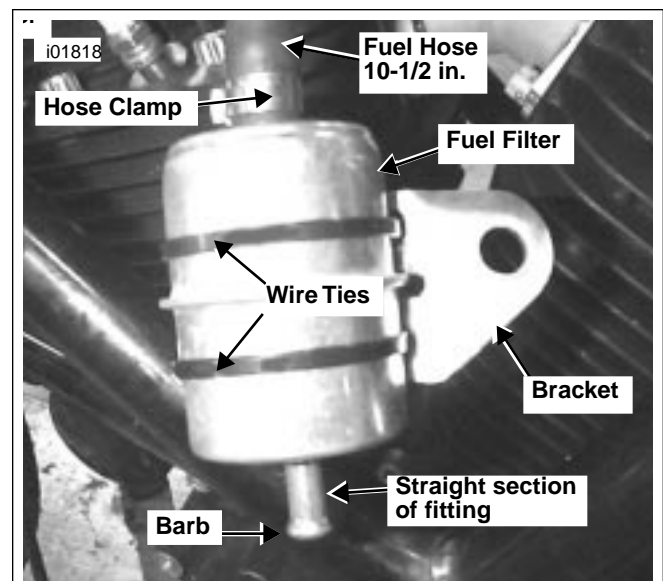

Figure 6. Filter Mounted to Bracket (S3 Shown)
11. See Figure 6. Using the wire ties, attach the fuel filter to the bracket with the filter's ridge on the middle slot of the bracket. Verify that the flow arrow on the filter is pointing towards front of vehicle.